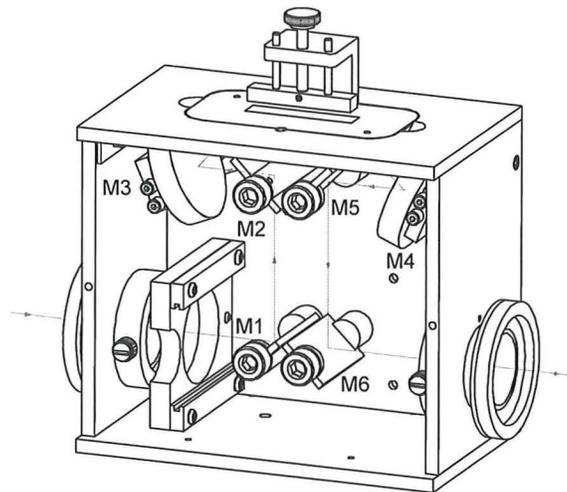

Figure 4 • Horizon™ Alignment
- Using the supplied 3/32" ball driver, adjust the tilt and turn adjustments on mirrors M3 and M4 (Figure 4). Optimize the energy at one before moving on to the next.